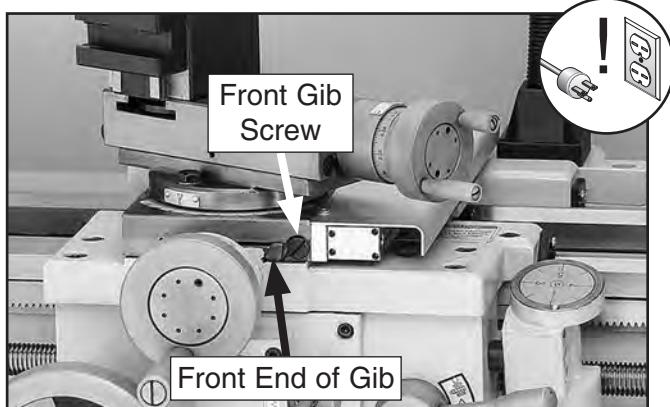

Figure 119. Cross slide gib components.
- To increase slide tension, loosen rear gib screw $\frac{1}{8}$ turn, and tighten front gib screw $\frac{1}{8}$ turn (see **Figure 119**).
- To decrease slide tension, loosen front gib screw $\frac{1}{8}$ turn, and tighten rear gib screw $\frac{1}{8}$ turn (see **Figure 119**).